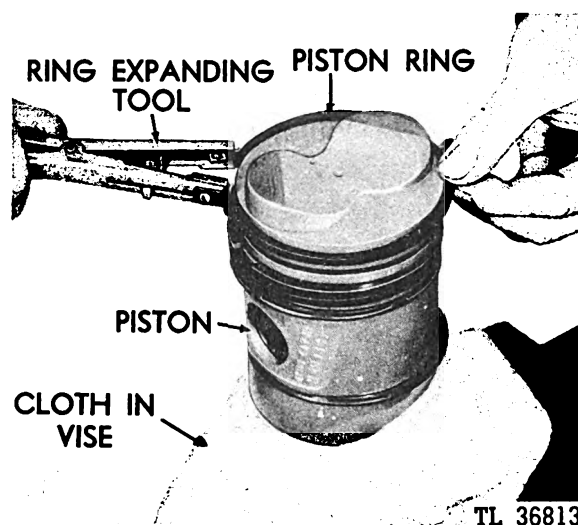

Fig. 161. Installing Piston Rings
(1) Clamp the pistons and connecting rod assemblies in a vise with lead jaws so that the piston seats tightly against the top side of the jaws. With a narrow strip of clean cloth, clean out each ring groove. If the clearance between the ring lands and the ring has not been checked according to the instructions in paragraph 58c, the check should be made before installing the rings. Install the rings with a ring tool as shown in Figure 161 and space the gaps of the rings 90 degrees apart (a quarter of a circle). There should be no gaps over the piston pin. The top ring is a fire ring; the next two are compression rings, and the lower are ventilated oil rings.